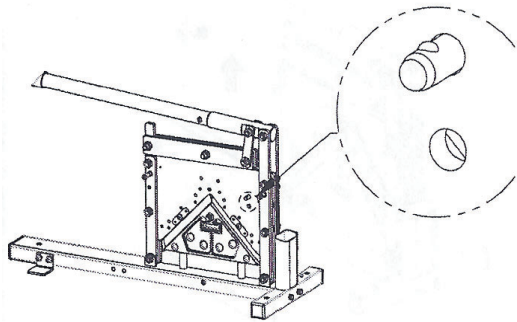

Figure 9
- 3) Check that the Safety Pin is fully inserted by looking at the other side of the machine and the Pin will protrude out of the hole as shown in Figure 9.